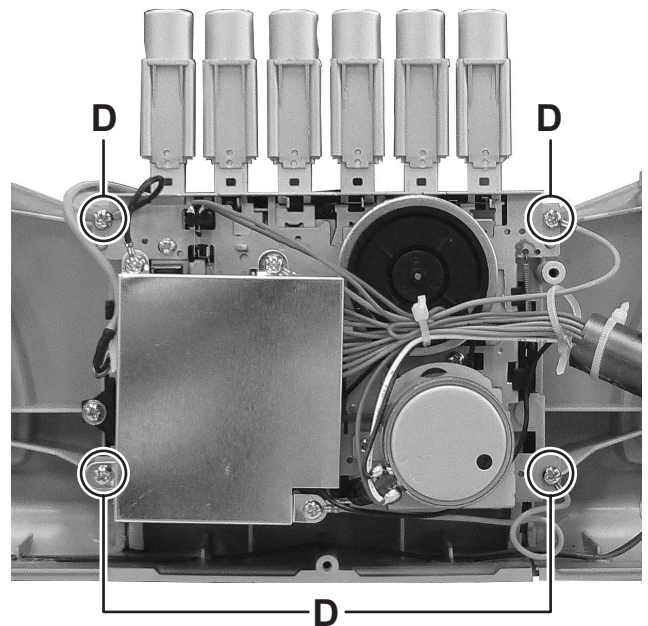

Fig.7
3.1.3 Removing the Cassette mechanism assembly (See Fig.7)